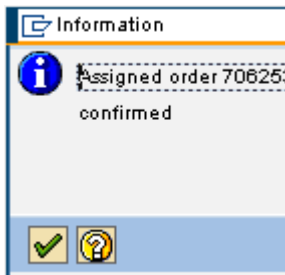

Fig. 13
8.6. Press the Enter key again when the "Information" pop up window is displayed (Fig 13)